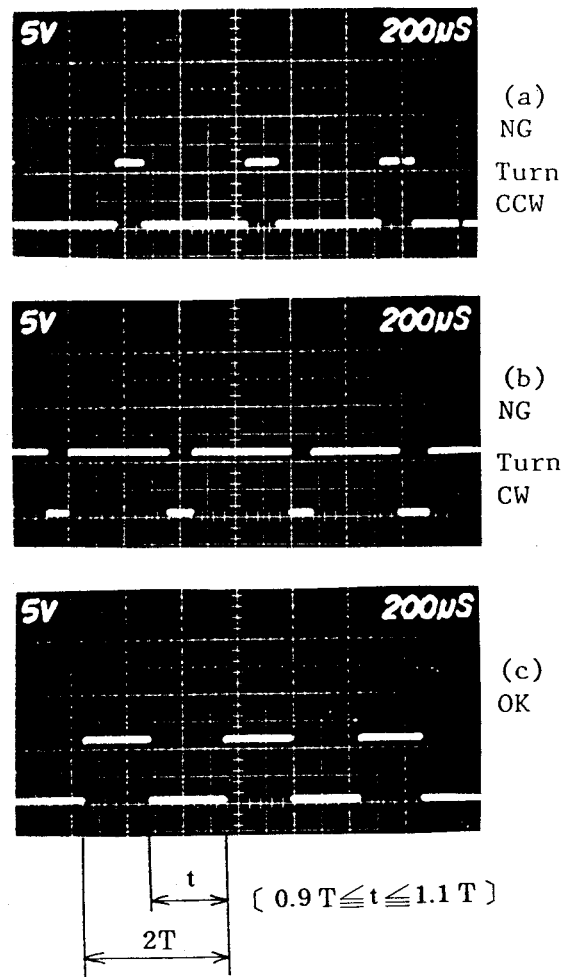

Fig. 3
For facilities without lens projectors, place tape on the front lens assembly (fig. 3) to reduce the space between the unit and the helicoid so the lens unit is as nearly centered as possible without a tool or projector. If tape is not used and the lens assembled without a projector, there may be as much as three to four steps difference between corners (20mm). When tape is used, this difference can be reduced to about one step. If poor resolution or resolution differences from one side to the other are the reason the lens is being repaired, then it is mandatory that the repair be done at a facility with a lens projector.
6. Adjust VR7 so the waveform is like figure 3 (C).